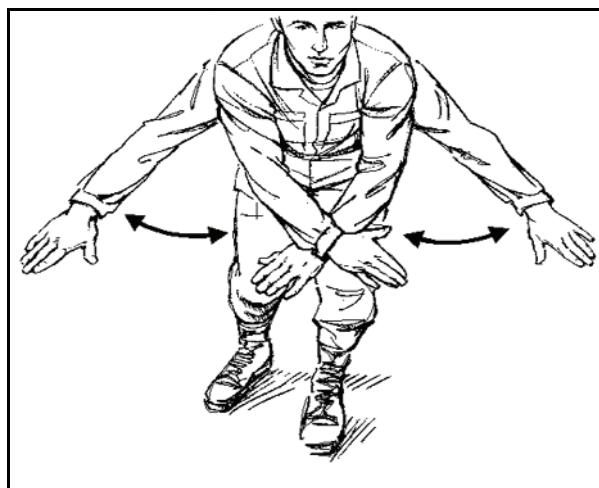

Figure 3-9. Arm-and-hand signal for SIT IN THE DOOR.
- (2) **SIT IN THE DOOR** (Figure 3-9). The rappel master extends both arms to the front with elbows locked, fingers extended, thumbs running along the index fingers, and palms facing downward. He bends slightly at the waist so the arms are below the waist. He then moves both arms in a crisscross waving motion, alternating left over right, and right over left.